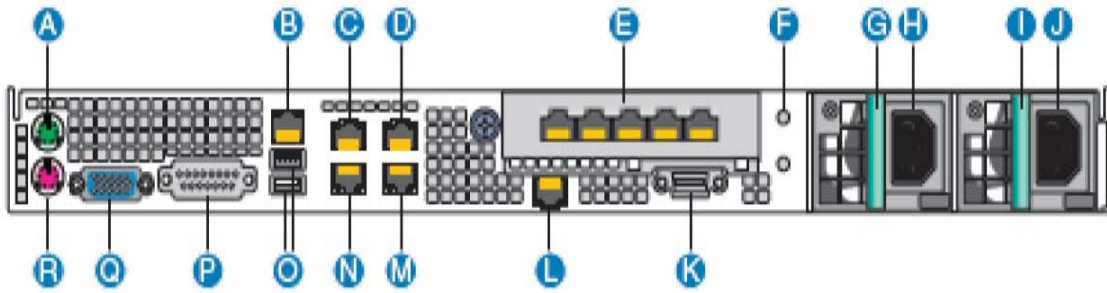

Figure 1-2 1U chassis rear layout (Dual AC power unit)
The position of the E1/T1 and VoIP ports are shown in figure 1-2.
There is a single IP signalling connection per system, and this connector carries an eight wire Ethernet connection, which does not require an external splitter. It is located at position (M) in figure 1-2.